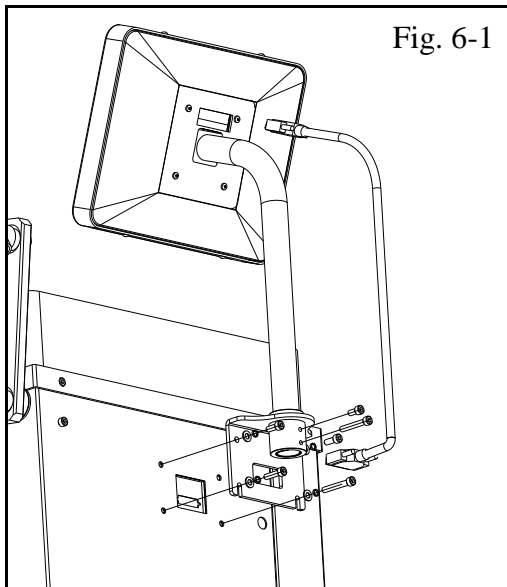

Fig. 6-1
4.4 PANEL INSTALLTION (ref. fig. 6-1)